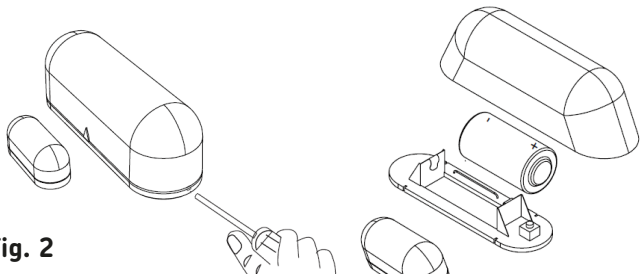

Fig. 2
- Using a small flat-head screwdriver lift off the top of the main part and replace the CR2 battery ensuring that correct polarity is observed, refit the top (see Fig. 2)